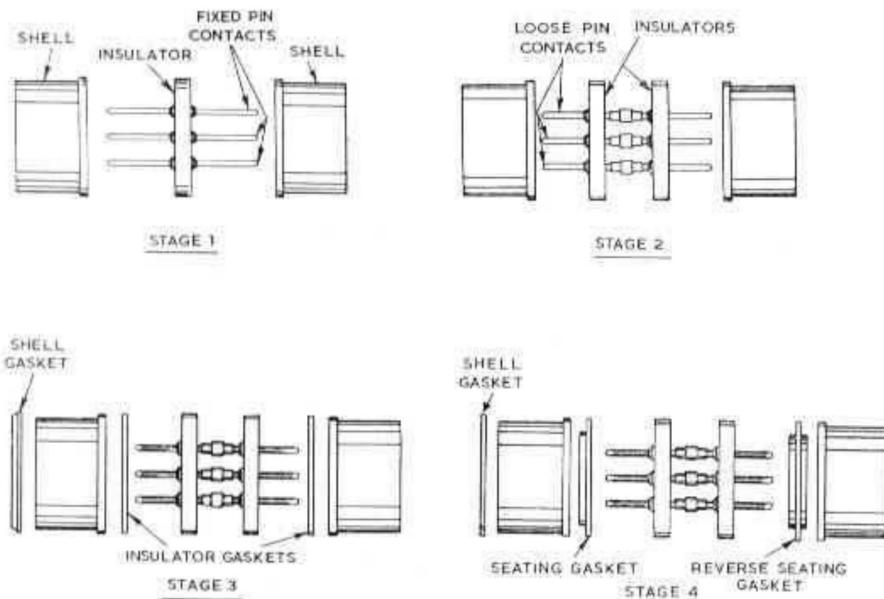

Fig. 10. Bulkhead unit, stages of development
19. In this version the ferrule gasket is made of asbestos fibre, thus giving the unit improved resistance to fluids and fire. These units are waterproof and vibration-proof when assembled in aluminium shells and waterproof, fireproof and vibration-proof when assembled in steel shells (para. 2(1) and 2(2)).
20. This style of unit (fig. 10) was the original design and was manufactured with aluminium, brass and steel shells. In effect, the stage 1 bulkhead unit consists of two stage 1 fixed units joined back-to-back but with a single insulator (of phenolic material) in which special double-ended pins are moulded in position. It is used to connect two free units, one a normal unit, the other a reverse unit, on either side of a bulkhead (that is, the free units are mirror images of one another but otherwise identical).
21. This version (fig. 10) differed from stage 1 in that the insulation was formed of two identical components, each having stepped creepage barriers at the perimeters of the contact holes (para. 8). The bases of the pins are sandwiched between the insulators when the flange is secured by the fixing bolts and nuts.
23. In the stage 4 version (fig. 10), the front and rear insulator discs were alkyd and the shell gasket silicone rubber. A seating and a reverse seating gasket (designed to accept the leading edges of mating socket units) replace the insulator gaskets of units in stage 3 and these are also of silicone rubber. The changes leading to this stage enabled the unit to operate between ambient temperatures of -65 degrees C. and +150 degrees C.